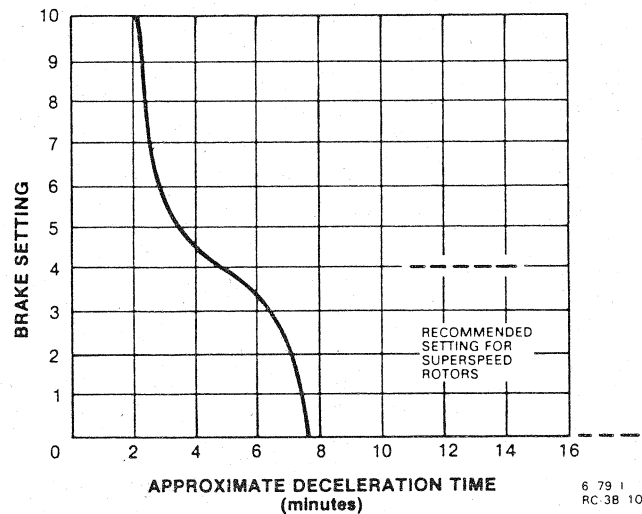

Figure 3-2. Brake Setting vs Deceleration Time
6. Set the BRAKE dial to the desired braking rate. Figure 3-2 shows a typical braking curve when a fully-loaded H-6000A rotor decelerates from 3800 rpm. Since many